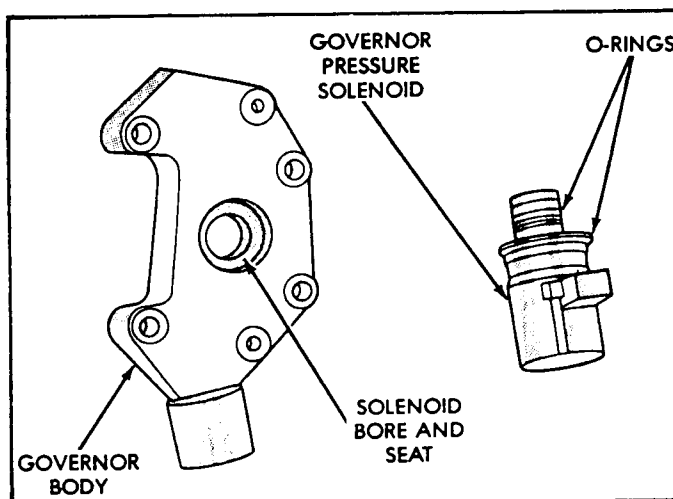

Figure 120
59. Install governor pressure solenoid in the governor body with twisting motion as shown in Figure 120.